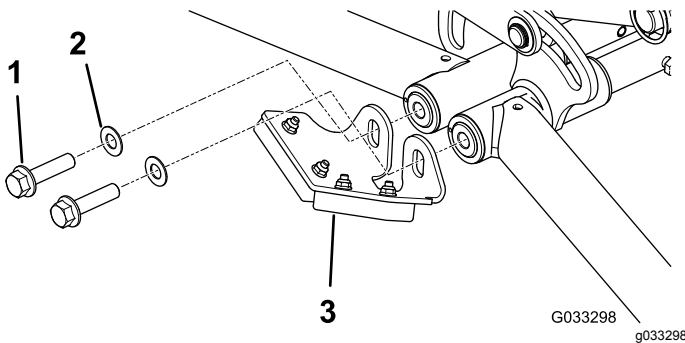

Figure 21
1. Flange-head bolt, existing (2)
2. Round bumper, existing (2)—discard
4. Loosely install the front bumper assembly and the washers as shown in Figure 21.